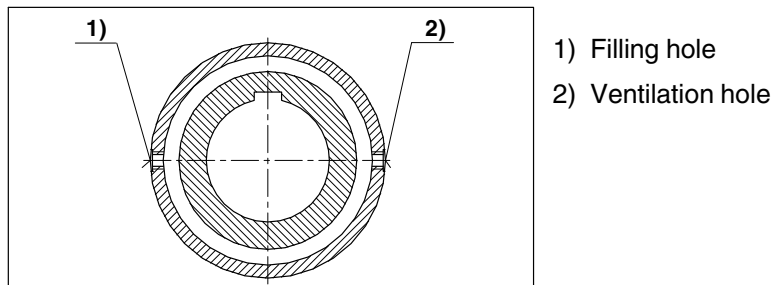

Fig. 9: Filling with grease
Rotate coupling until the screw plugs (6) are in the position shown in figure 9.